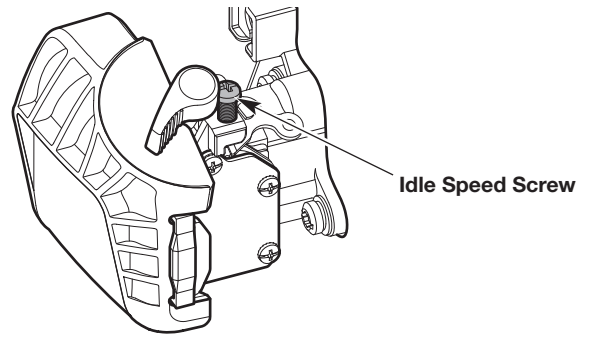

Fig. 10
- If the engine stops, increase the idle speed. Use a small Phillips screwdriver to turn the idle speed screw clockwise, 1/8 of a turn at a time, until the engine idles smoothly (Fig. 10).